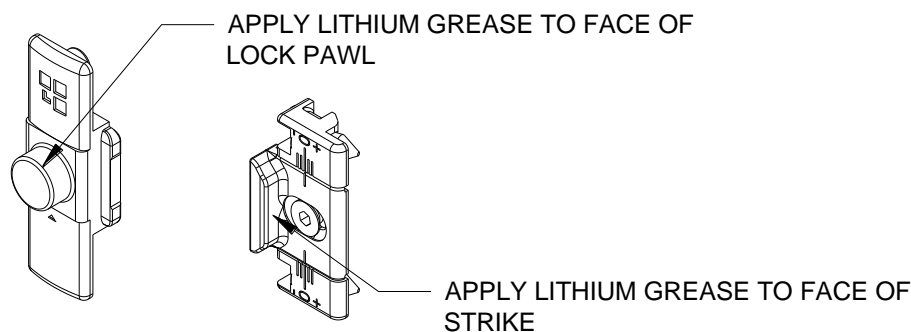

Figure 38
- Apply a light coat of oil as required to the face of the lock stud and strike (Figure 38), care must be taken when applying oil as it may stain other components of the door system.